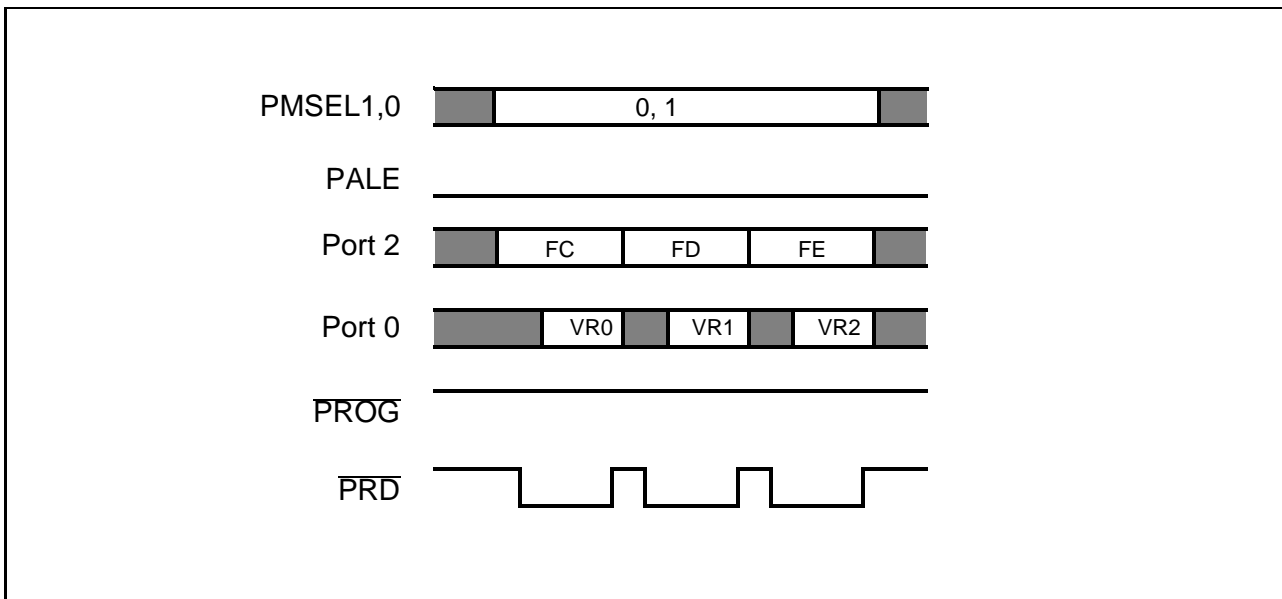

**Figure 4-6
**Figure 4-6** shows the waveform of a lock bit write/read access. For a simple drawing, the  $\overline{PROG}$  pulse is shortened. In reality, for lock bit programming, a 100µs  $\overline{PROG}$  low pulse must be applied.